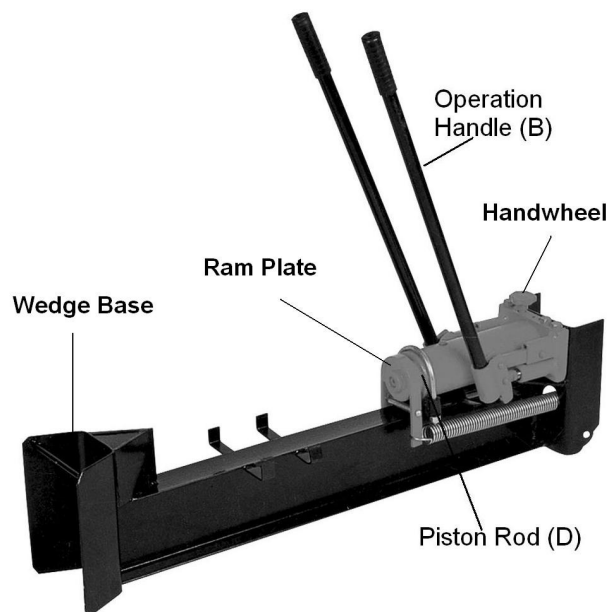

Figure 2
1. Grip one Handle in each hand and pump the Handles in a back-and-forth stroke motion. See Figure 2.
4. Turn the Handle (B) counterclockwise no more than one full turn to retrieve the Ram (see Figure 2).